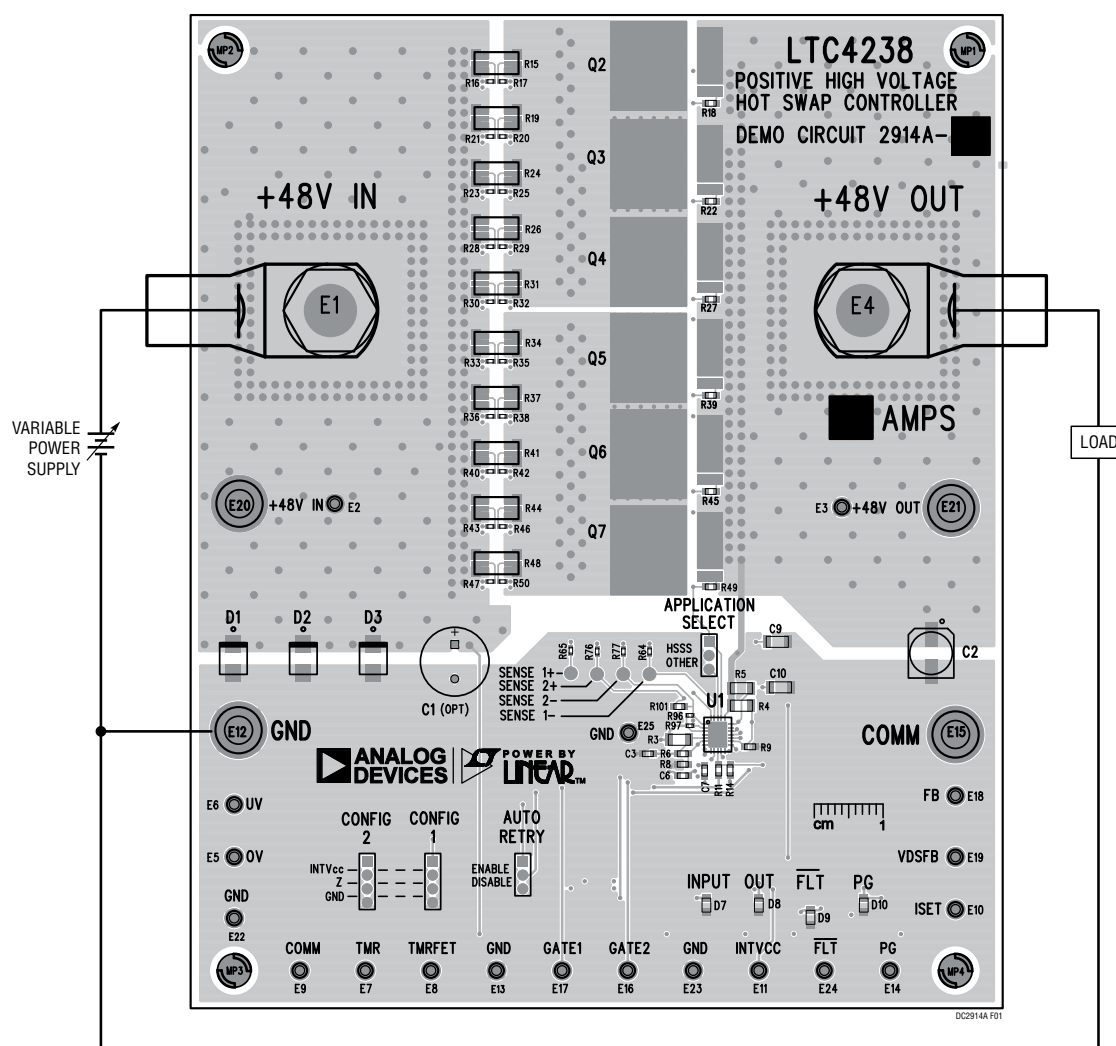

Figure 2. Proper Equipment Setup
DC2914A is easy to setup to evaluate performance of LTC4238 in various staged start modes. Refer to Figure 2 for proper equipment setup and follow the instructions below.
5. Connect an electronic load as shown in Figure 2. Set the load to "Constant Current" mode. Start Increasing the load current and observe the current when the part latches off, and generates a fault signal. This value should be very close to the following OC limits: